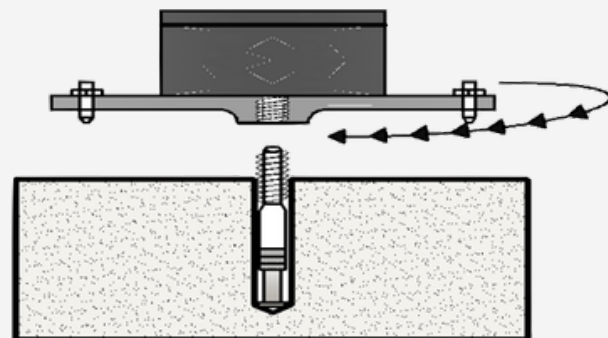
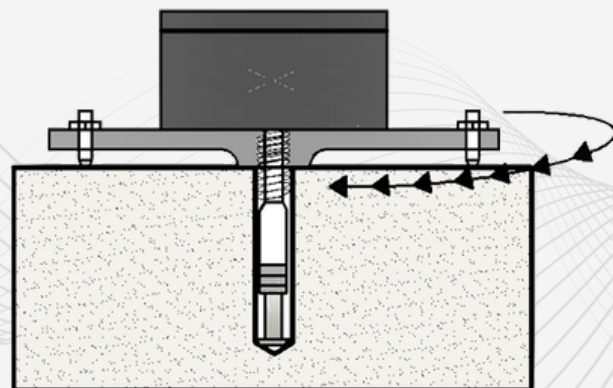

Figure 3 - Mating plate and anchor
Figure 4 - Fully mated mounting plate
8. Lower the xInc into place over installed anchor, match male threads from anchor with female threads at bottom of mounting plate. Rotate mounting plate clockwise to mate anchor and plate together, see Figure 3 and Figure 4).